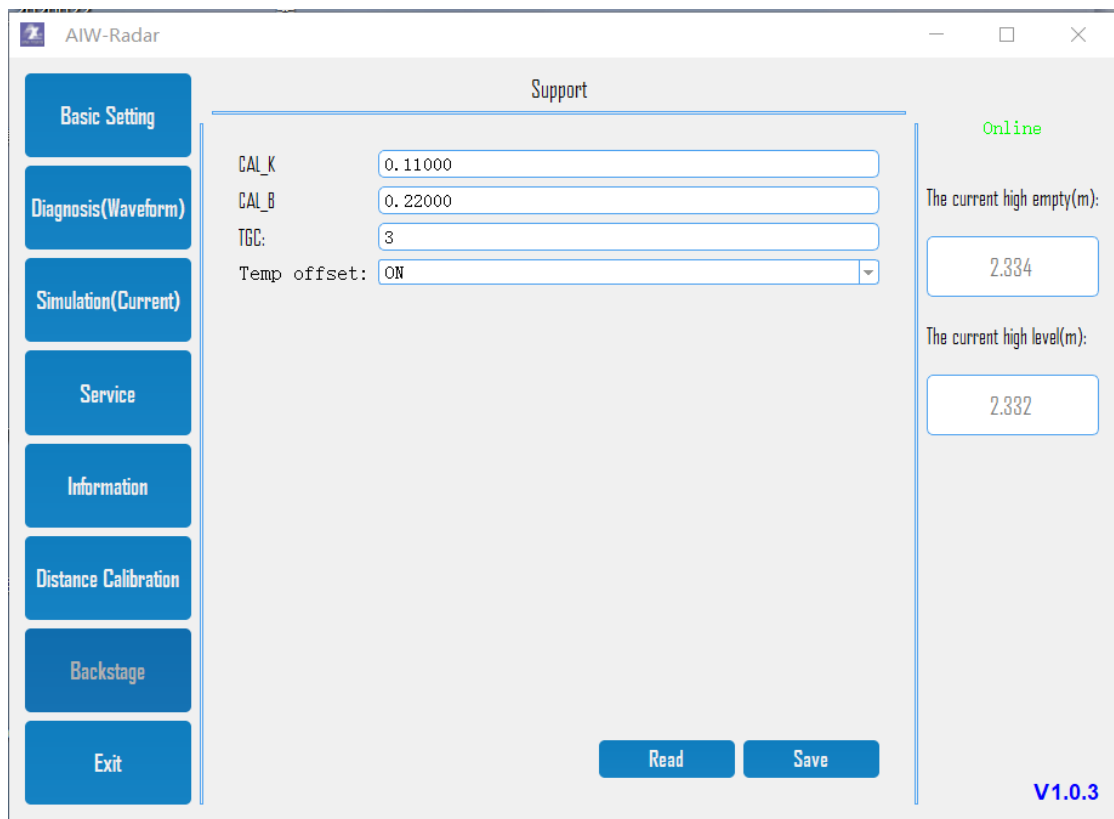

Figure 9.
- Click on the "Backstage" button on the left side of the main interface, and the main interface will display the device precision calibration KB parameters. It can be modified according to actual needs. As shown in Figure 9.